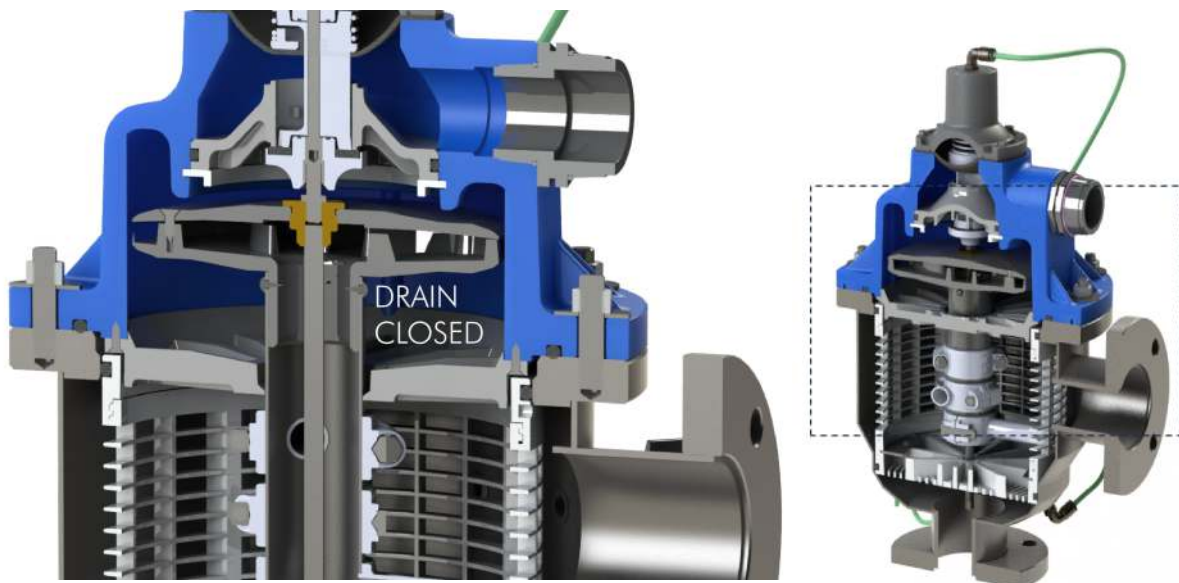

Figure 4 Flush Valve at end of stroke, drain closed.
- c. When the Flush Valve reaches the end of its stroke, the drain will close again, flush will pause, but is not complete. See Figure 4 below.